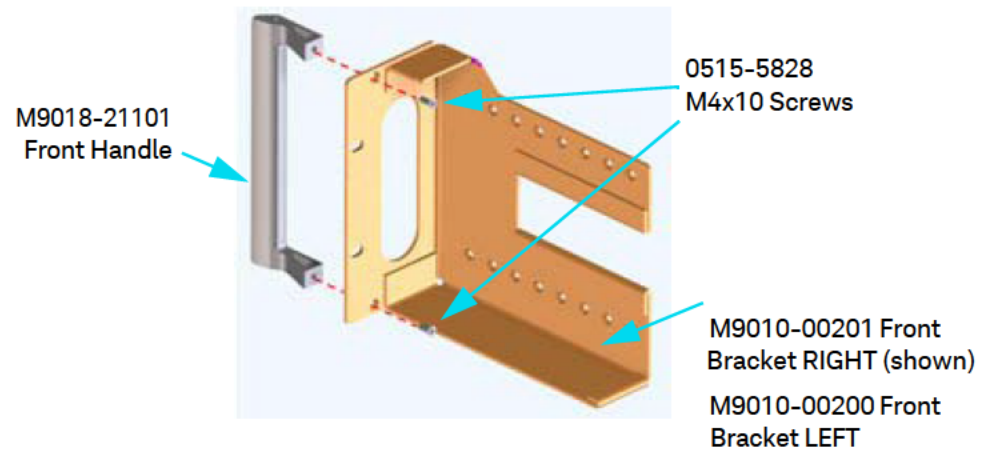

Figure 4 Install Handles to Front Brackets (Right bracket shown)
- 1 Assemble Front Handle (M9018-21101) to Left and Right Front Brackets (M9010-00200, M9010-00201). Use two 0515-5828 (M4x10) screws to attach each handle to each bracket. See Figure 4 below.